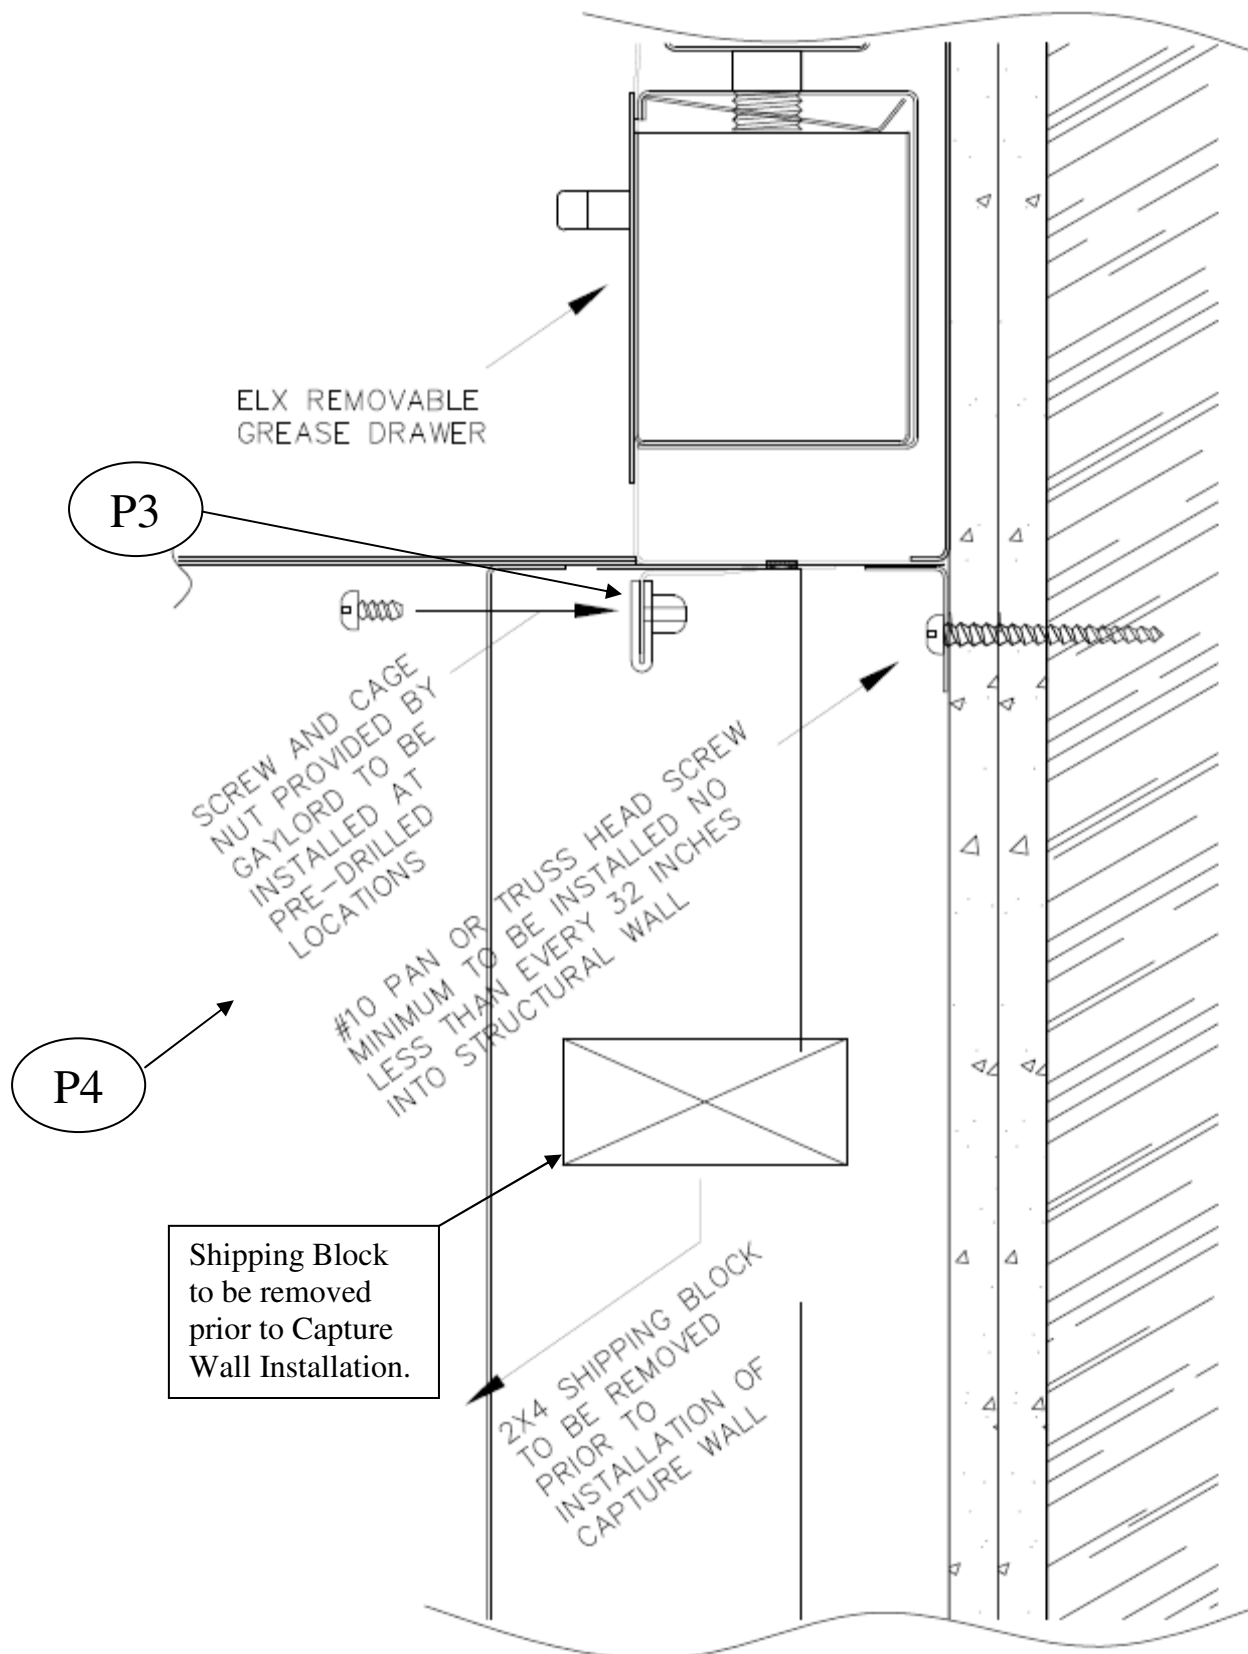

Fig. 3, Capture wall / hood attachment...
1. Once the canopy has been successfully installed, plumb, square, and level, remove the shipping block, noted below in fig.3.
2. Move the *Capture Wall* into place under its mating hood section, and secure with the provided screws through the holes provided, *see fig.3, and P3 & P,4.*